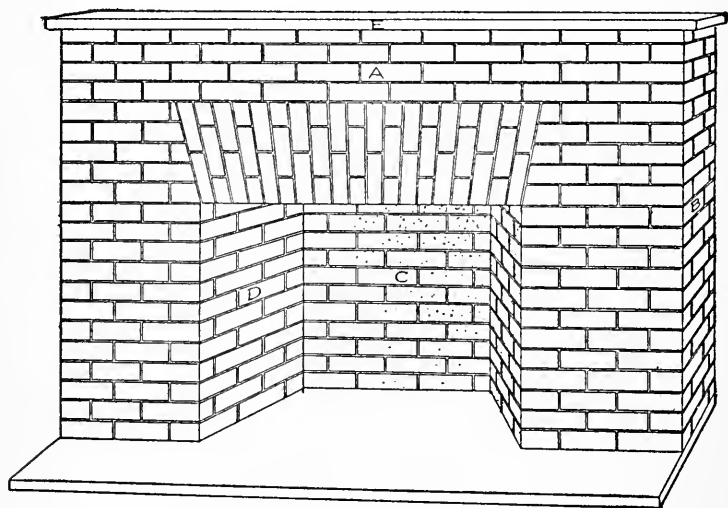

FIG. 93.—The Living-room Mantel.
**A Mantel and Fire-place** in the living-room of the house, and it had better be built in at this point. Figure 93 shows about the simplest form of mantel you can make, and one that presents a very neat appearance. It is made out of cigar-box strips painted to
place, and one of *E* for the mantel-shelf. These pieces, with the exception of *E*, should be painted red, and striped off, when dry, with white paint to represent brick. It will be much easier to do the painting before fastening the pieces in their proper places. First divide the length and breadth of the pieces into about the number of spaces shown in Fig. 93 with a lead pencil. Then with a small brush, and straight-edge for a guide, trace over the pencil lines with white lead. Be careful in striping the brick to get the courses the same upon each piece so they will correspond when the pieces are put together.
**The Hearth** is made out of a strip seven inches long by two inches wide. Upon this the mantel should be put together with the pieces prepared. Figure 93 shows the location of each piece, and with the aid of glue and some small brads it will be a simple matter to complete the mantel. The edges of the strips had best be mitred to make neat joints. Paint the hearth and mantel-shelf white.